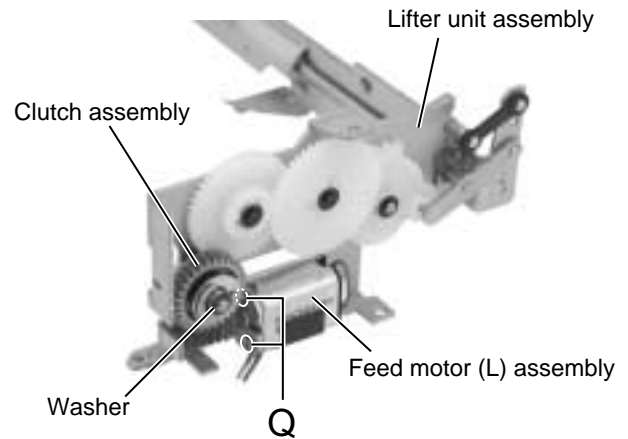

Fig.13
■ Removing the feed motor (L) (See Fig.13)
2. Remove the two screws Q attaching the feed motor (L).